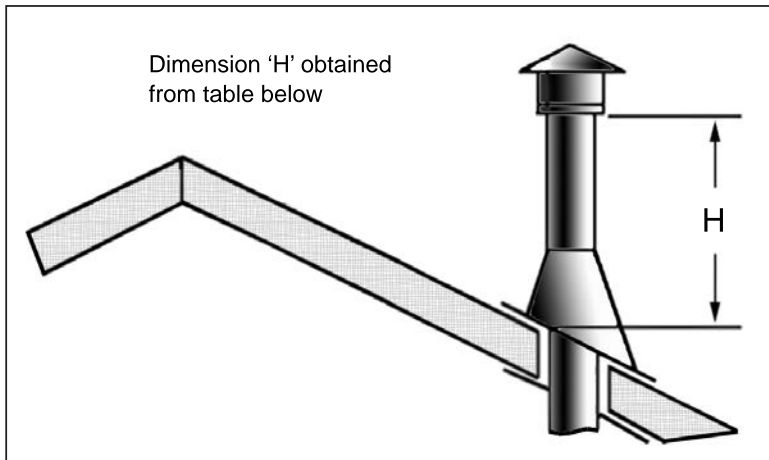

Figure 69: Height of Vertical Termination; Reference Table 8
- Step 4.** Measure roof pitch. Select the proper flashing and storm collar and determine the height above the roof (see Figure 69). A non-corrosive pipe material must be used for all exterior pipe lengths. Seal nail heads with silicone.
Table 9: Minimum 'H' for Figure 69.